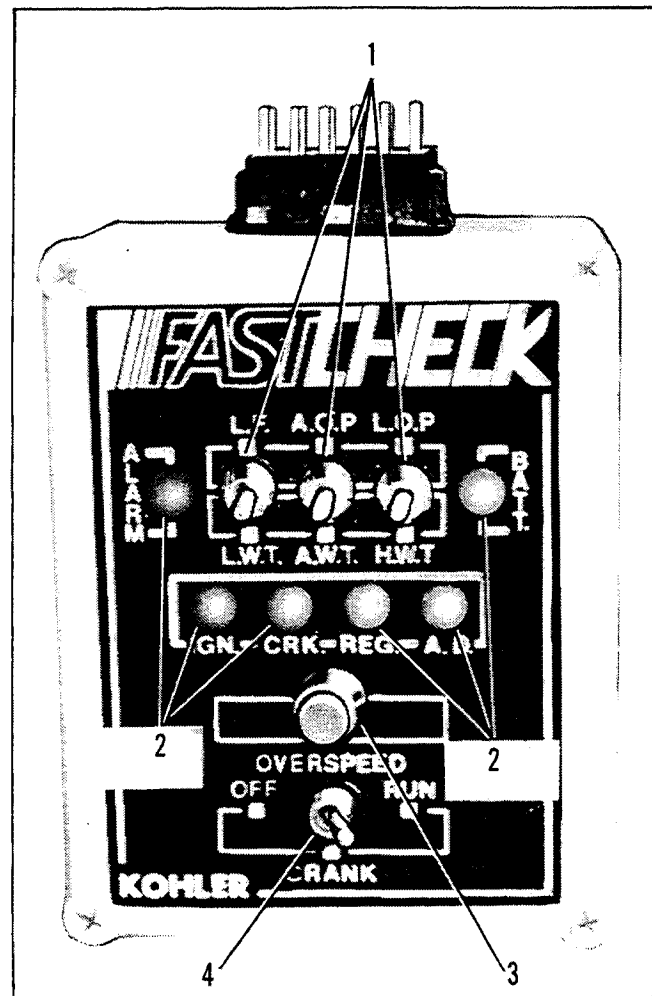

Figure 3-9. Fast Check
#### Features (Figure 3-9)
2. Plug Fast Check harness onto DC harness connector and top of Fast Check (Figure 3-9).